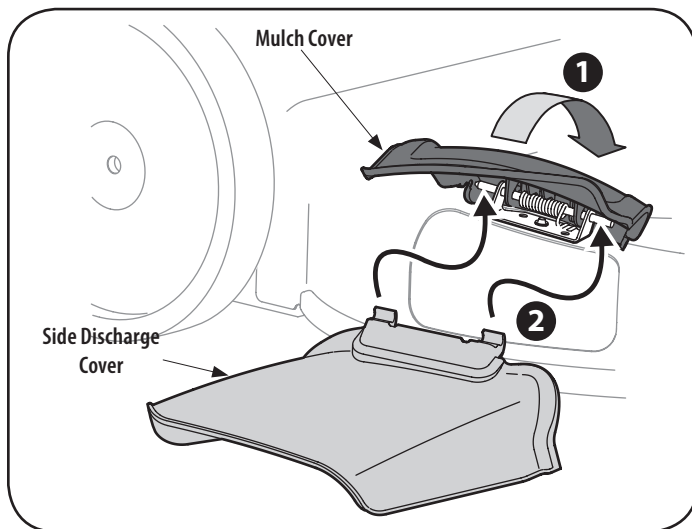

Figure 9
1. On the side of the mower, lift the mulch cover. See Figure 9.